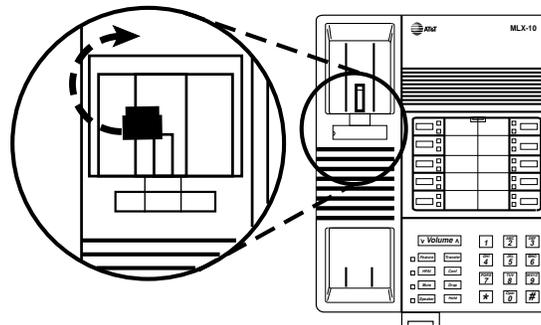

Figure 3-35. Rotating the Handset Holder
- b Rotate the handset holder 180 degrees and replace it in its slot. See Figure 3-35.